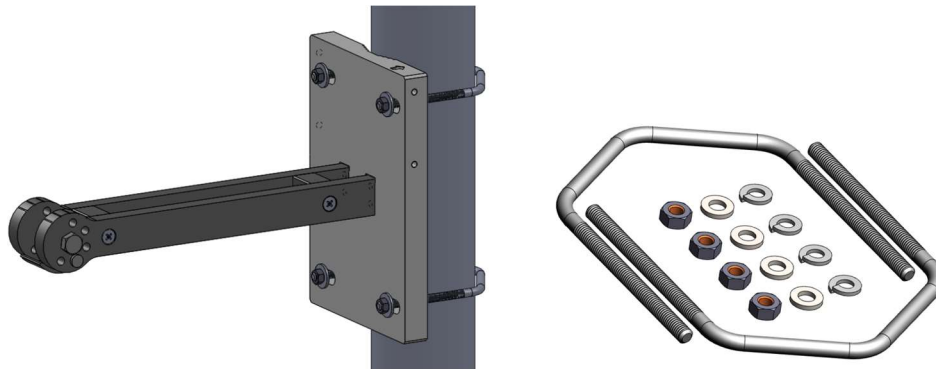

Figure 18: Pole Mounting Accessories
4. The mounting bracket assembly can be pole or wall mounted. For pole mounting option, shown in Figure 18, use the supplied U-bolt accessory kit. Tighten the mounting screws to 2.5 Nm (22 in·lbs). NOTE: Wall mounting hardware is not included and shall be field supplied and selected to support the full system weight.